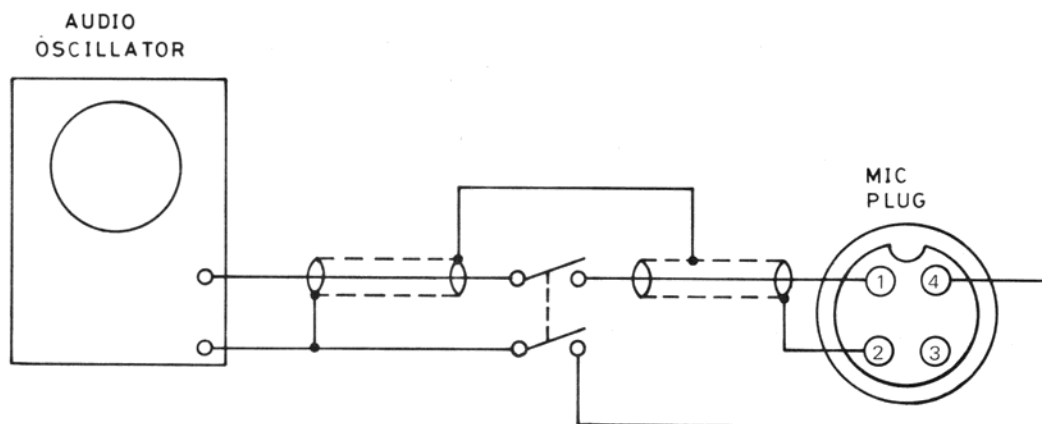

Figure 4-2 Transmitter Switch Adapter
2. Connect an audio oscillator to the microphone jack, and set the oscillator for a frequency of 1 kHz. The transmitter switch adapter shown in Figure 4-2 may be used for this purpose.